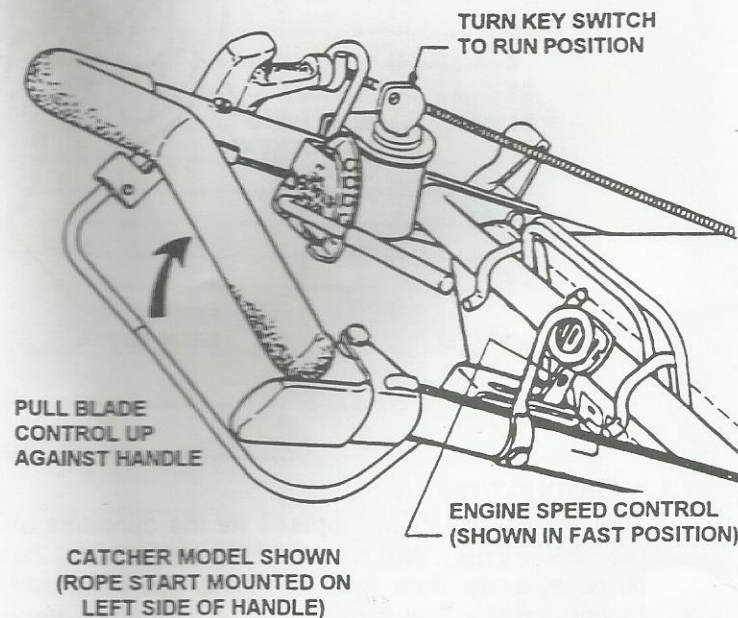

FIGURE 2.3
1. Move engine speed control to the "Fast" (Rabbit) position. See Figure 2.3.
3. Turn key to the start position until engine starts. See Figure 2.3.